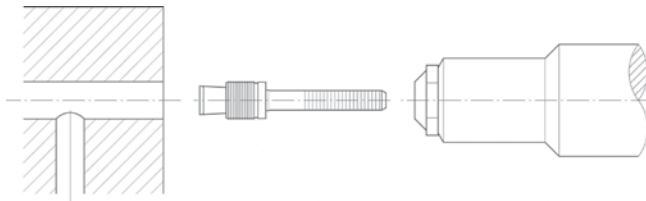

Fig.1
- / Insert the plug in the tool, making sure that the sleeve is against the nosepiece (Fig. 1).